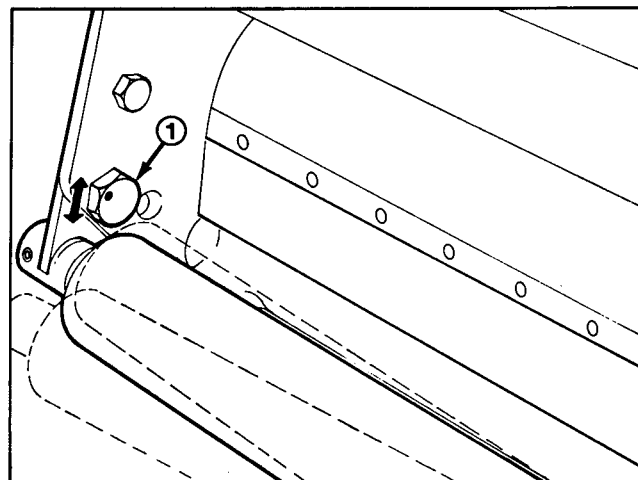

Figure 16
7. While holding reel securely on plate, level roller by rotating lower left roller pivot bolt. The pivot bolt has an offset thread which when rotated, acts as a cam to raise or lower the roller. On the bolt head there is an identification dot (Fig. 16) which denotes the offset of the bolt. Dot indicates in which direction left end of roller moves when bolt is turned.